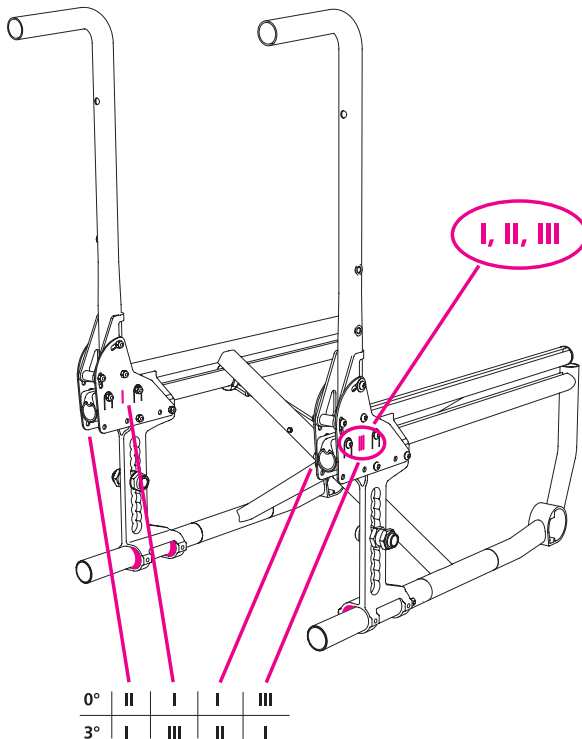

Fig. 52
2. For clear identification, the plates are marked with the numbers I (2 x), II, III (Fig. 52).